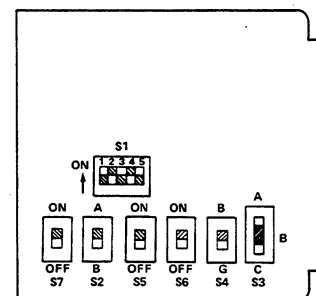

figure 2. 9296 option switch locations
2.06 The 9296 module contains seven option switches. Locations of these option switches on the module's printed circuit board are shown in figure 2, and their functions are summarized in tables 2 and 3. After these options